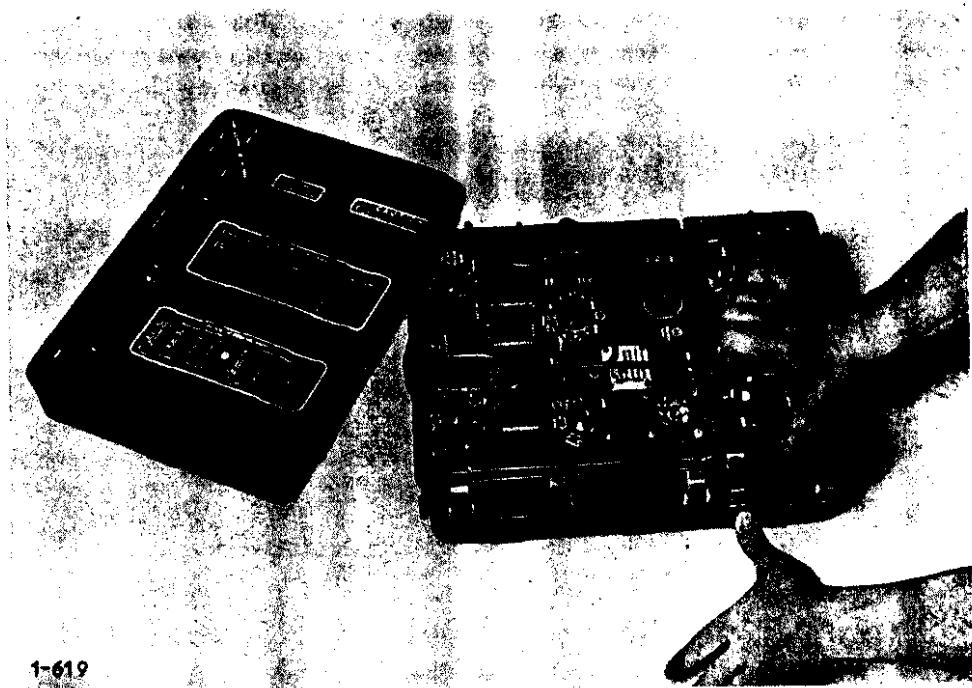

Figure 12. Resetting the clamps on the panels of receiver-transmitter RT-77/GRC-9-GY.
c. When the cover is completely removed from the case, the individual receiver and transmitter sections may be lifted partly out of the case. To prevent the possibility of these units falling out of the case, reset the clamps on the small projections on the receiver and transmitter front panels (fig. 12). The same precaution must be observed in unhooking the clamps from this position, as when the front cover was on.